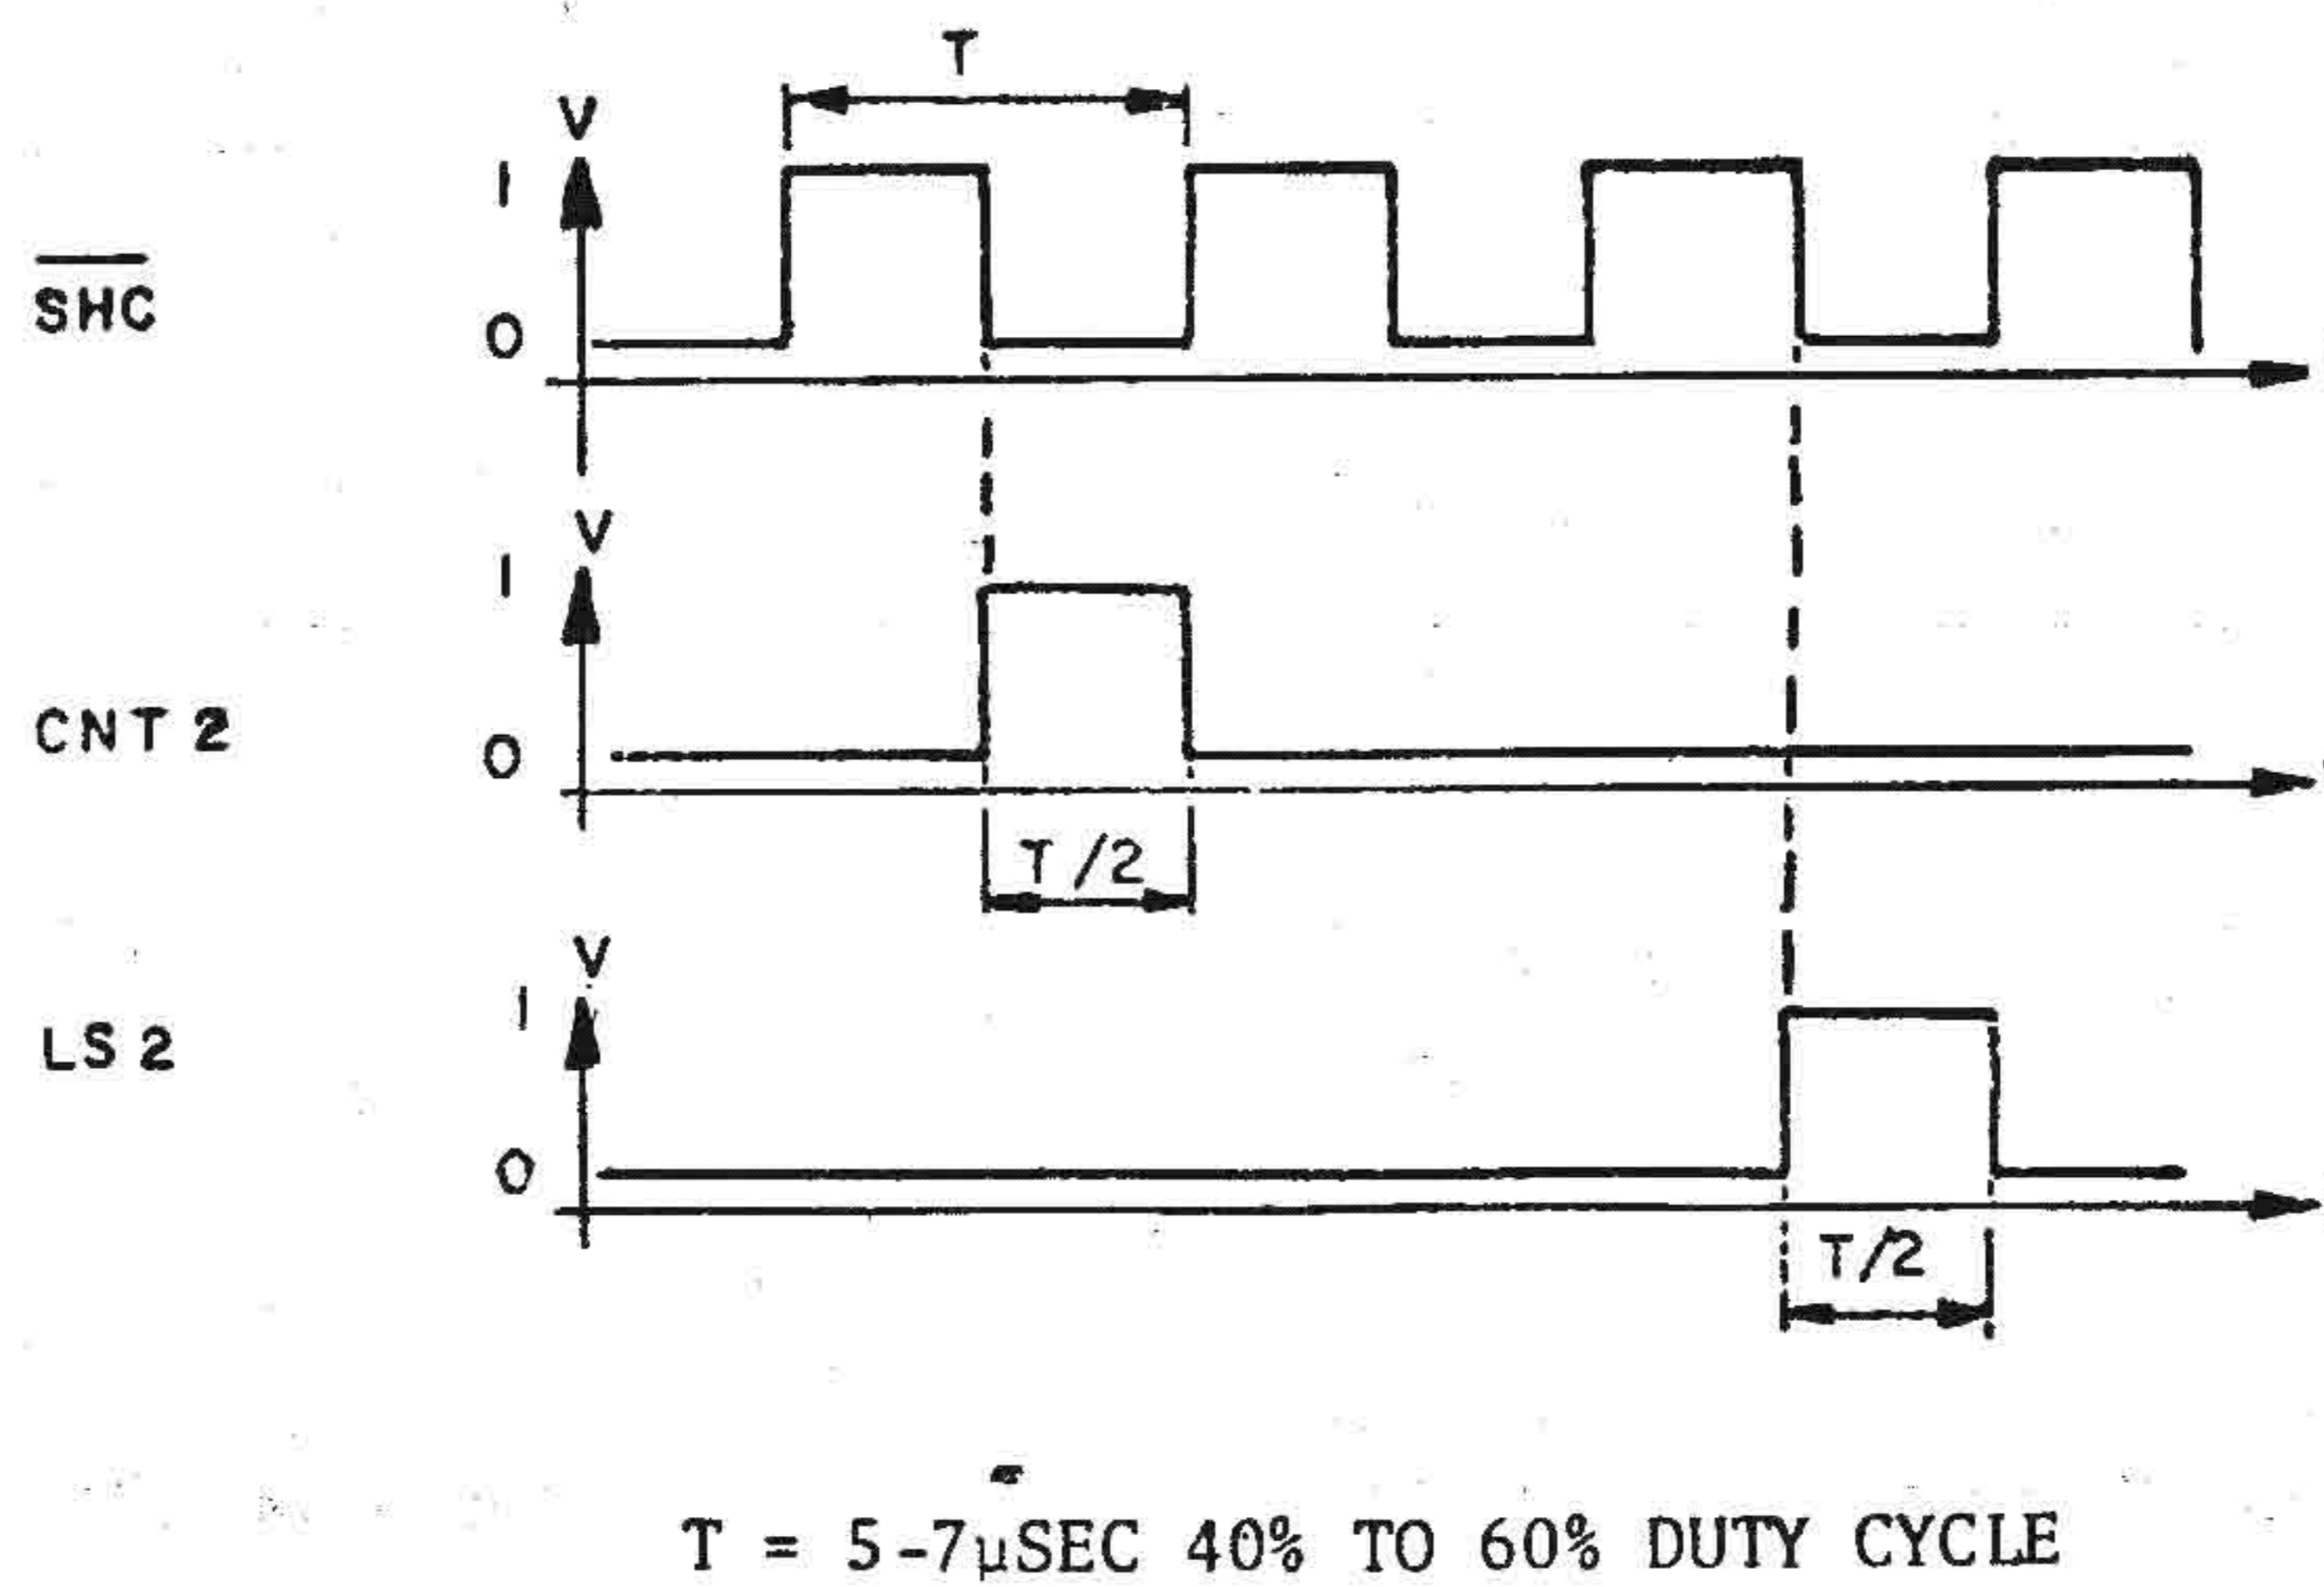

Fig. 2-38. Relative timing os SCH*,LS2 and CNT2 signals
The relative timing of the $\overline{\text{SHC}}$, LS2 and CNT2 pulses is shown in fig. 2-38.
2. "C" is one group of pulses, as defined in fig. 2-38. To obtain the results shown in the tables, a high level pulse must be applied on the PST line before and after each pulse group.